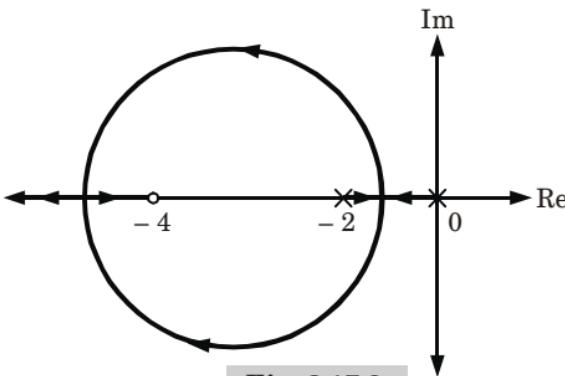

Fig. 3.17.2.
2. Now if zero at $s = -4$ added to $G(s)H(s)$ root locus becomes as shown in Fig. 3.17.2.